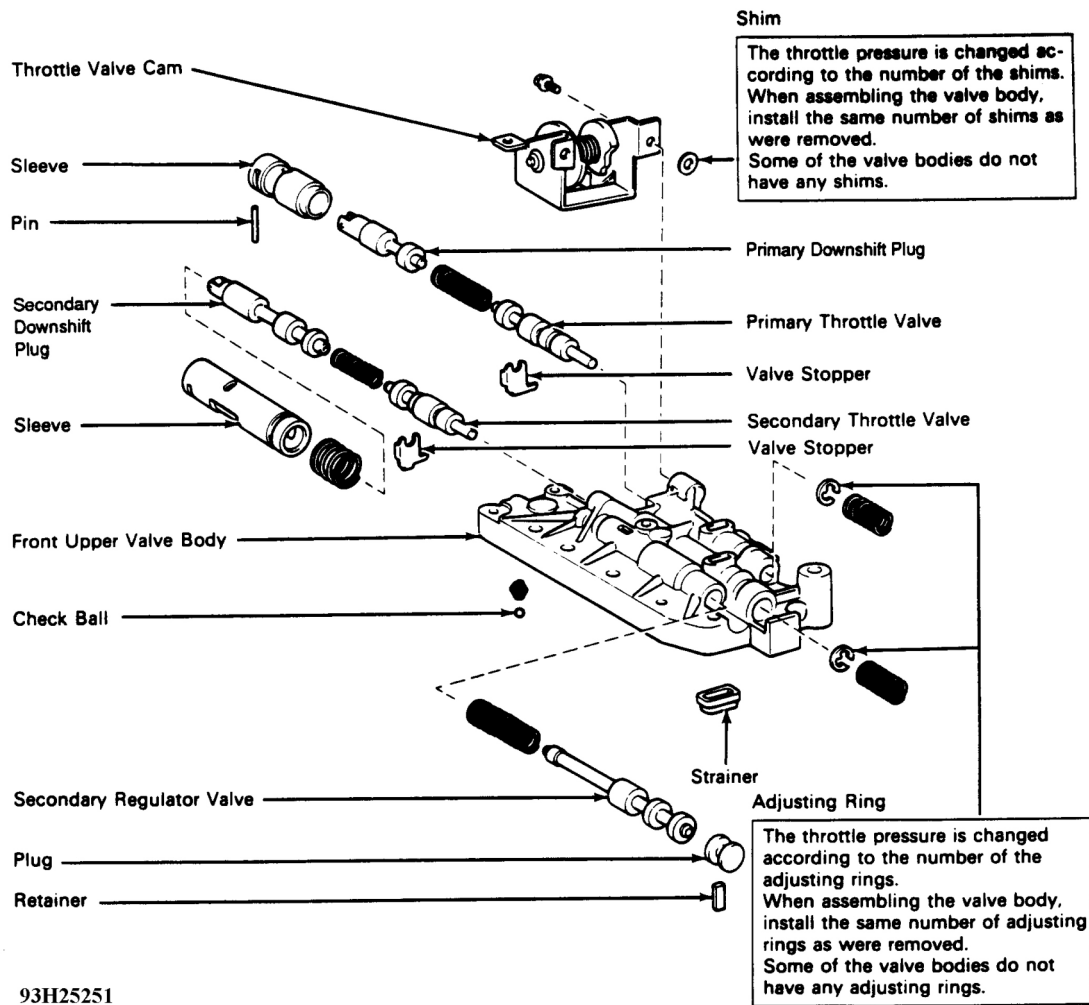

Fig. 38: Exploded View Of Front Upper Valve Body
1. Remove throttle valve cam and spring assembly. Remove pin, sleeve, primary downshift plug and spring, primary throttle valve, valve stopper, adjusting ring(s) and primary throttle valve spring. See **Fig. 38**.
2. Install primary throttle valve. Install same number of adjusting rings on throttle valve as were removed during disassembly. See **Fig. 38**.